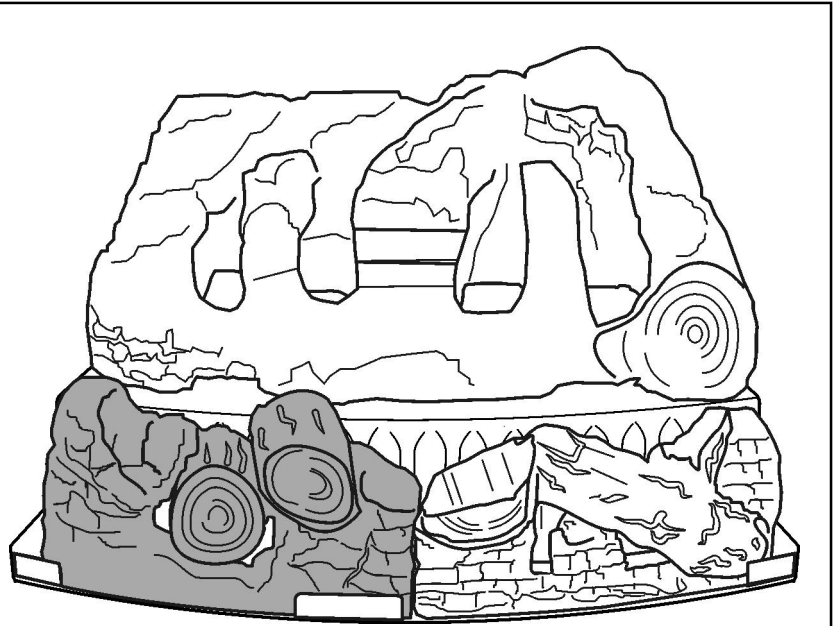

Figure 3. Fitting the left hand front base log
3. Remove the left hand front base log from its protective packaging and position it in front of the burner as shown in figure 3. Gently push the left and right front logs together to close the gap between them.